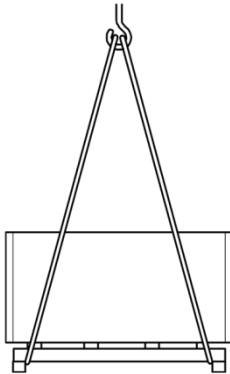

Fig. 20: lifting gear
- 1 Sling on ropes, belts accordingly (Fig. 20) to the pallet and secure pallet against slipping.